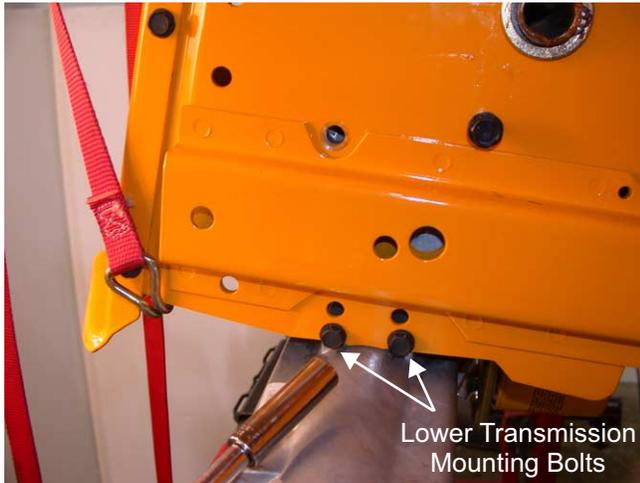

Figure 7.13
7.13. Now loosen but do not remove the lower two (2) bolts 5/16-18 x.75 on the right side of the transmission, using a 1/2" socket and ratchet. See Figure 7.13.